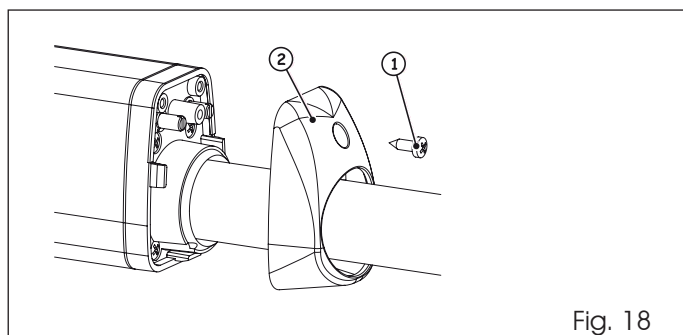

Fig. 18
1. Unscrew the upper fastening screw, Fig.18 Ref.1, and remove the cap, Fig.18 Ref.2.
6. Reposition the cap (Fig. 18 Ref. 2) and tighten the fastening screw (Fig. 18 Ref. 1)